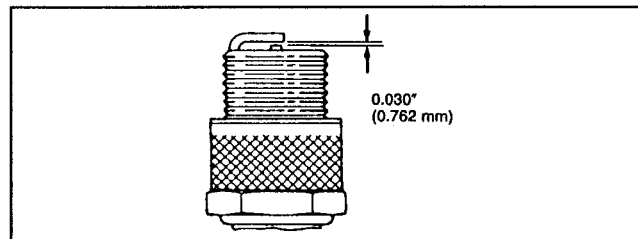

Figure 21
4. Set air gap between center and side electrodes at 0.030 of an inch (0.762 mm) (Fig. 21). Install correctly gapped spark plug w/gasket seal, and tighten plug to 15 ft-lb (20.4 N-m).